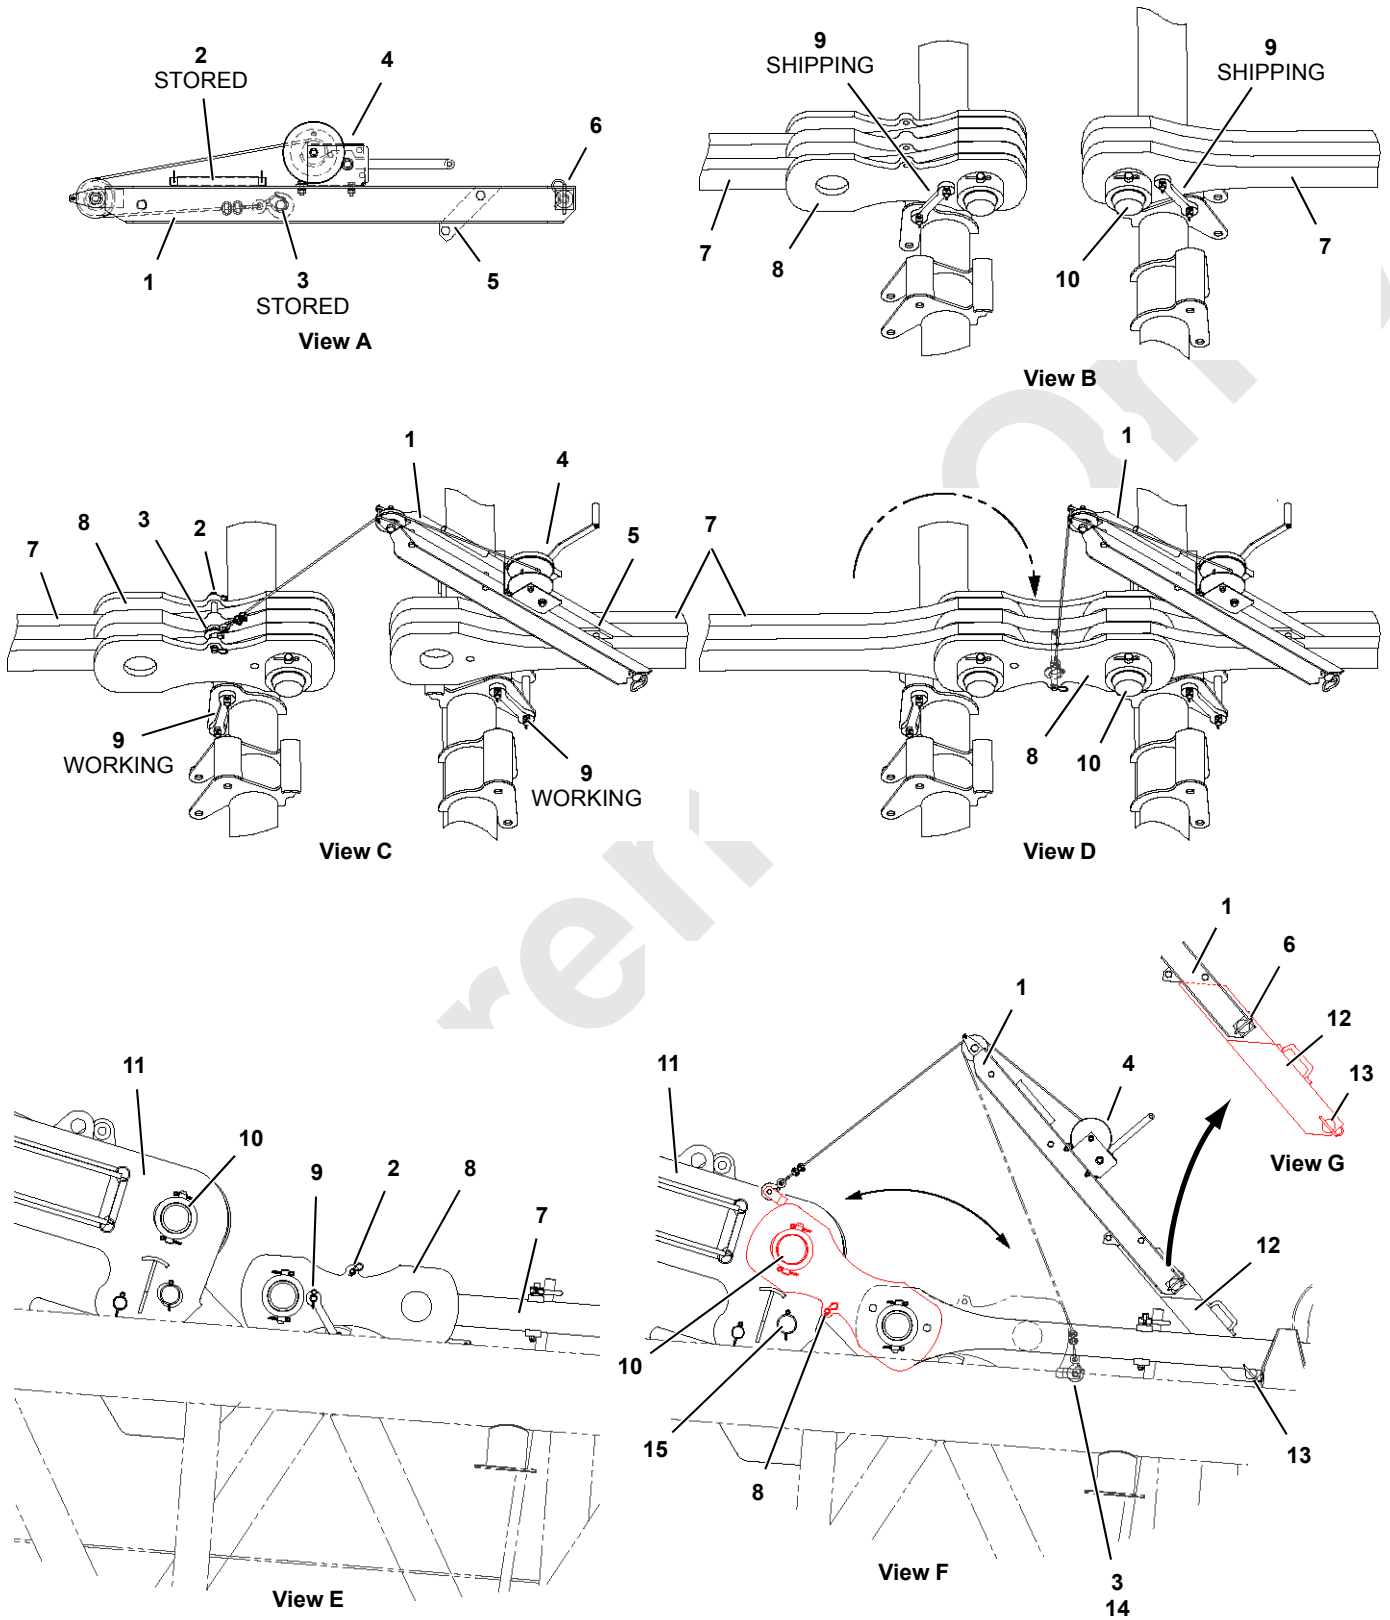

FIGURE 4-129
Legend for Figure 4-129
See Figure 4-129 for the following steps.
- Remove and store pins (15) once straps are connected to equalizer.
- Do not attempt to raise boom until pins (15) are removed.
1. Remove pin (15, Figure 4-129, View F) from both sides of the equalizer.